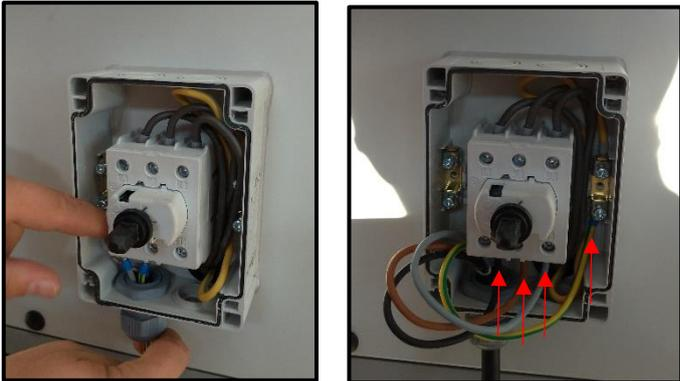

Fig. 62
5. Connect the cables to the terminals and close the main switch cover. Refer to chapter 8 for cable connections. (Fig. 62)